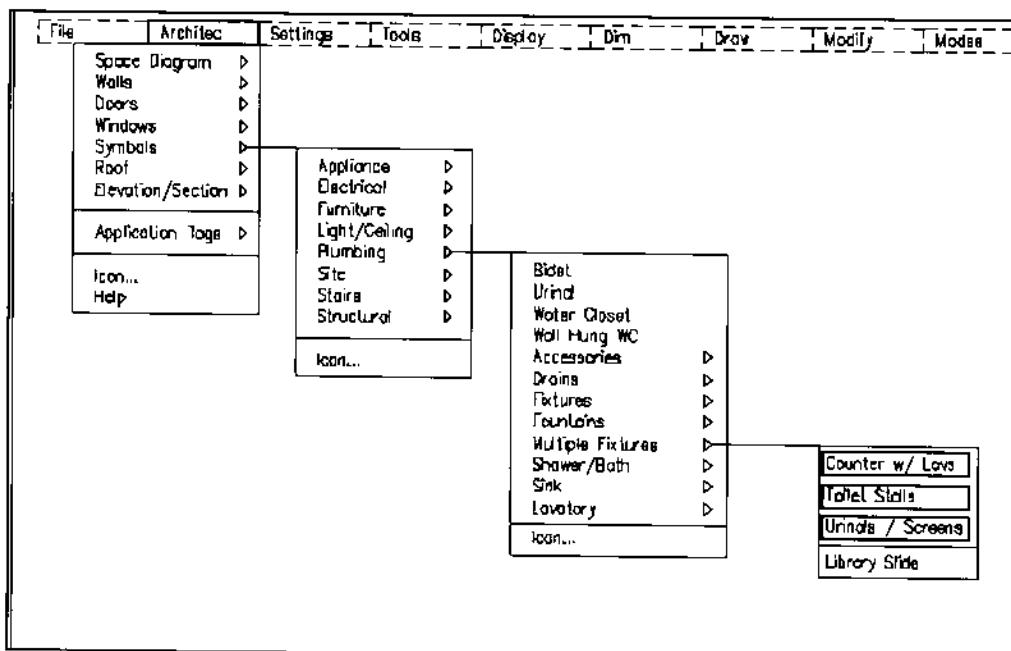
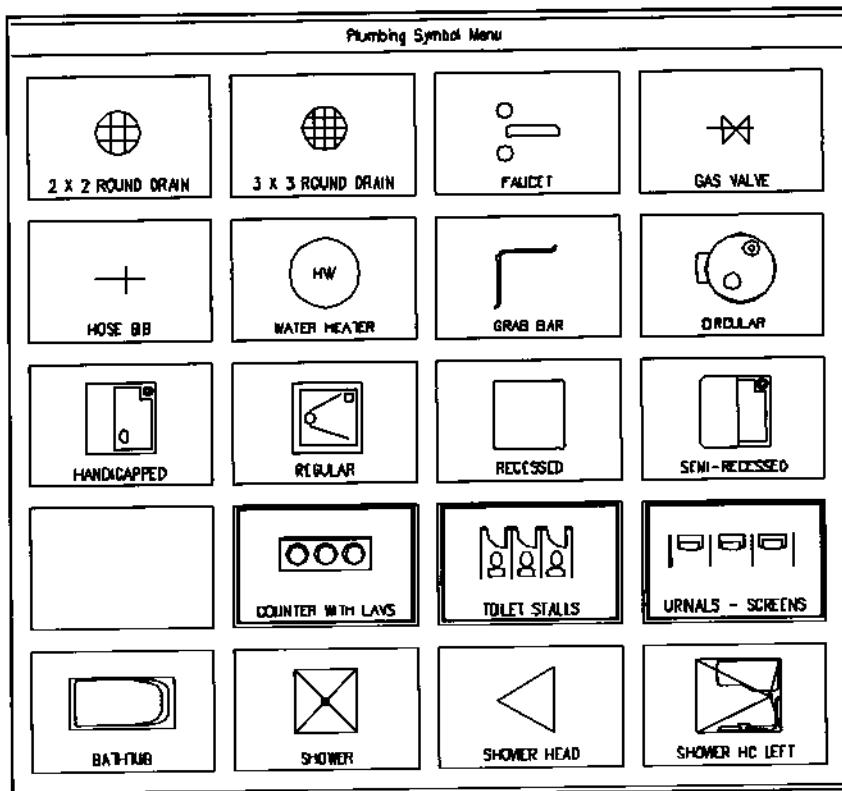

Figure 71.
Figure 72.
4. Select Symbols from the Architec pull-down menu, and then Plumbing, as shown in Figure 71, or the Plumbing Symbol icons shown in Figure 72.